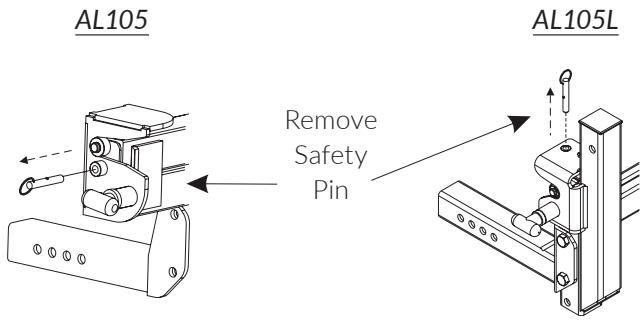

Figure 7-9
1. Remove the safety pin. *See Figure 7-9.*